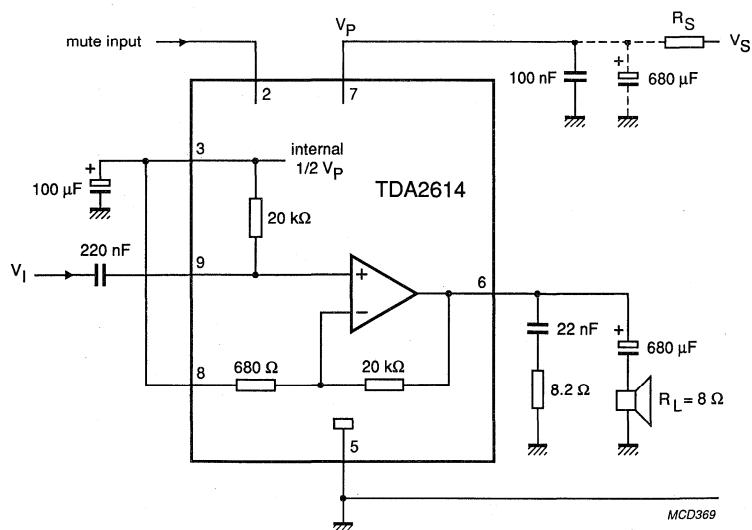

Fig.5 Test and application circuit with asymmetrical power supply.
- $V_p = 24 \text{ V}; R_L = 8 \Omega; T_{amb} = 25^\circ\text{C}; f = 1 \text{ kHz};$ asymmetrical power supply $I_{MUTE} < 30 \mu\text{A}$. See Fig.5
- $V_p = 8 \text{ V}; R_L = 8 \Omega; T_{amb} = 25^\circ\text{C}; f = 1 \text{ kHz};$ asymmetrical power supply. See Fig.5